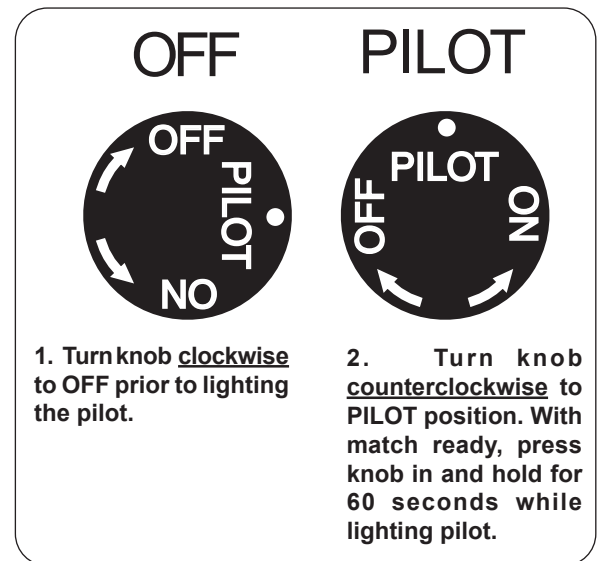

Fig. 27-1 Control knob detail (OFF, PILOT)
1. Locate the valve on the side of the unit. Push in the gas control knob slightly and turn clockwise to **OFF** (Fig. 27-1).
2. Turn the control knob counterclockwise to **PILOT** (Fig. 27-1). Push the control knob **firmly and fully** in and hold. Hold a long fireplace match or lighter near the thermocouple to light the pilot. Continue to hold the control knob in for approximately 60 seconds after the pilot is lit, then release the knob. The pilot will remain lit.